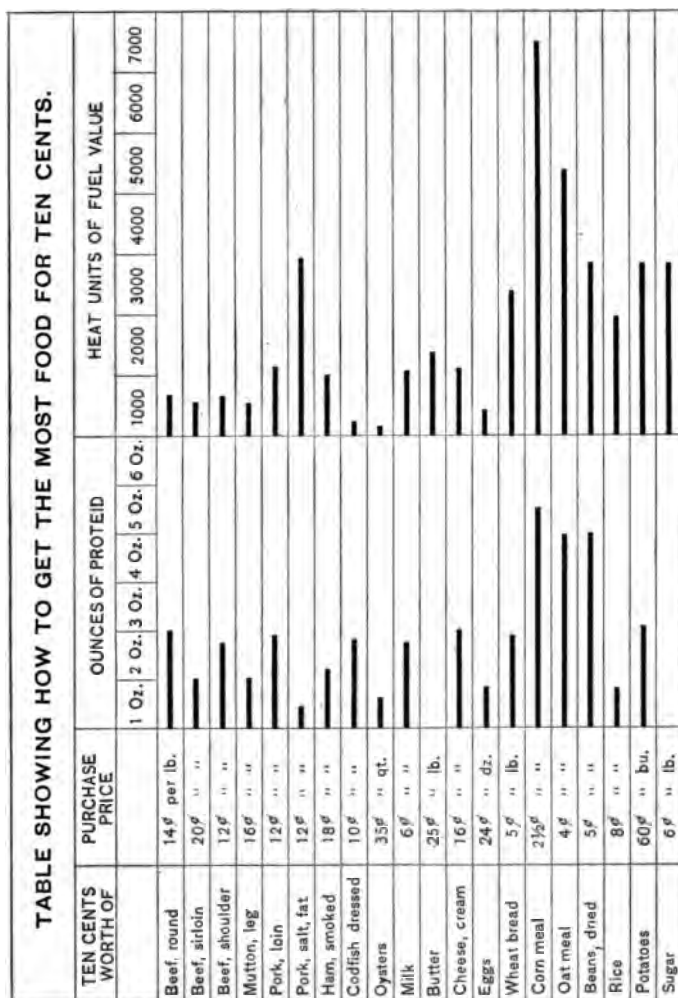

FIG. 28. — Table of food values.
64. Mistakes in Buying. The body demands a daily ration of the three classes of food stuffs, but it is for us to determine from what meats, vegetables, fruits, cereals, etc., this supply shall be obtained (Figs. 28 and 29).